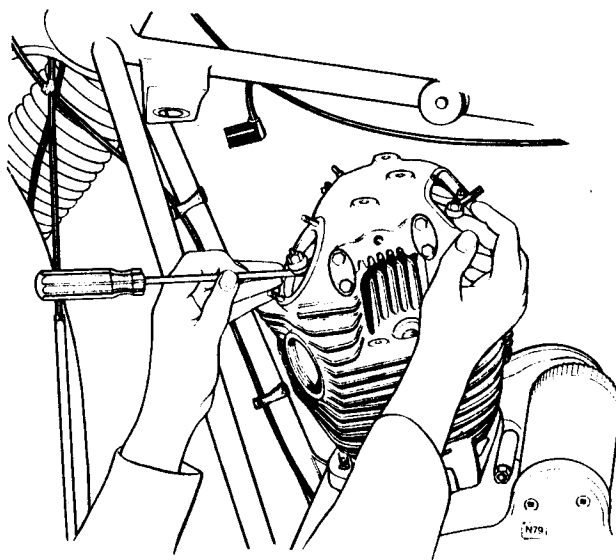

Fig. C8 Guiding pushrods into engagement with the rockers
- 6 Starting with the pair of pushrods which are slightly higher, engage the tops of the pushrods to the rocker ball ends as the cylinder head is lowered. Use an implement such as a thin screw-driver through the exhaust rocker box to guide the pushrods into position as shown in *Fig. C8*. Having engaged the first pair of pushrods engage the second pair in a similar manner.